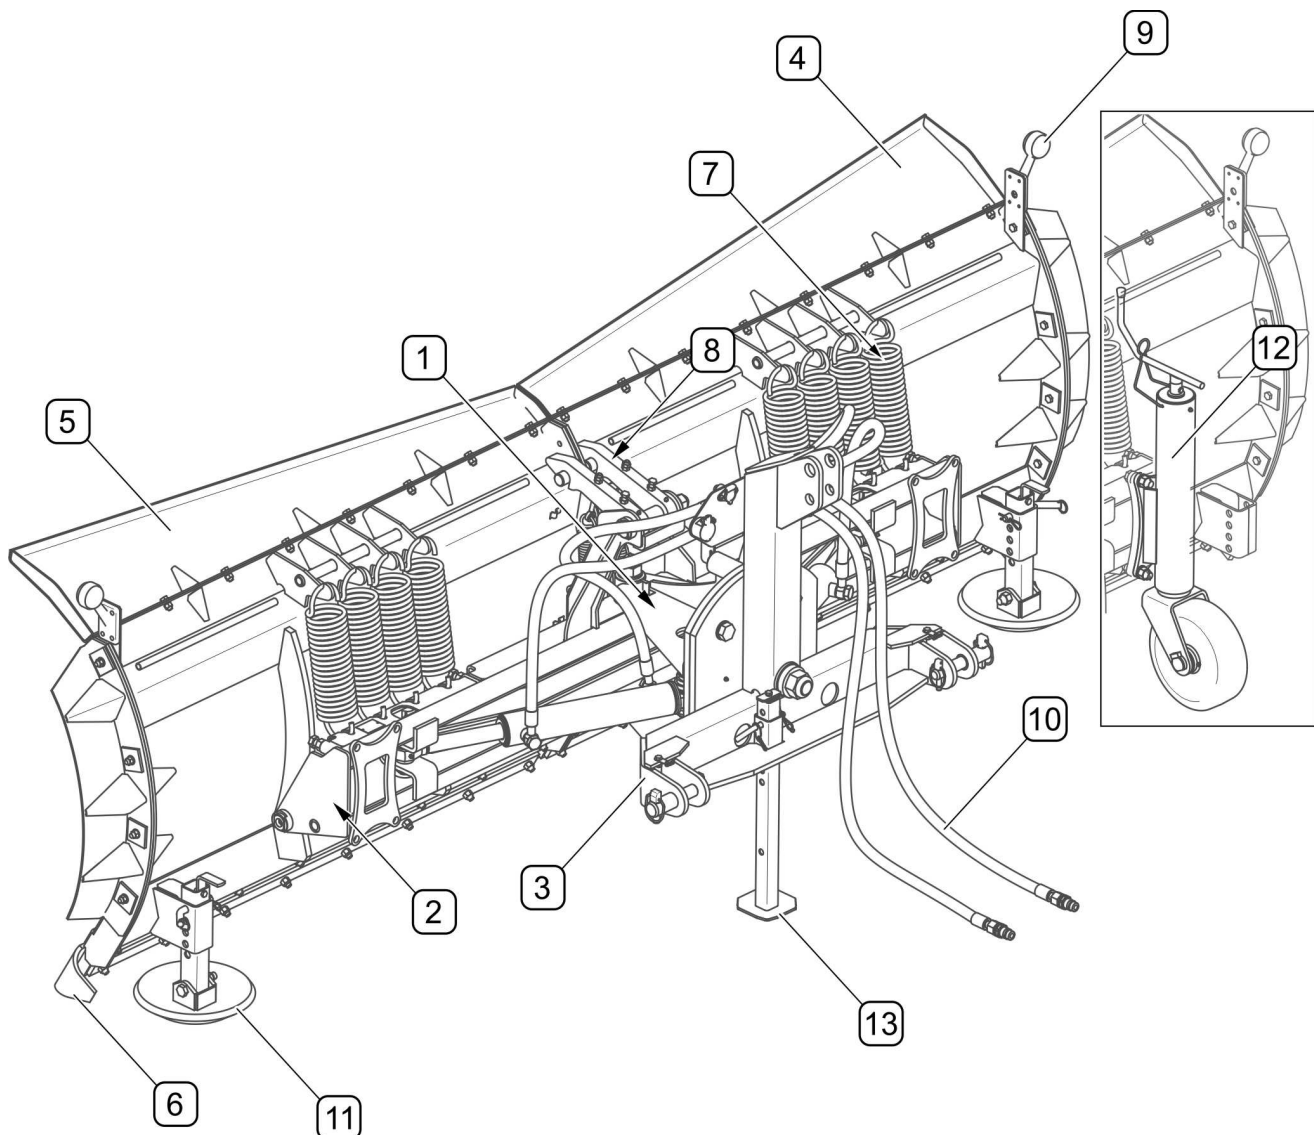

FIGURE 3.2 General design
(1) - cylinder frame; (2) - mouldboard frame, (3) - linkage, (4) - right mouldboard; (5) - left mouldboard; (6) - collecting strips, (7) - tensioning springs, (8) - protection mechanism ratchet, (9) - clear lamps wiring; (10) - hydraulic system (11) - slides, (12) - wheels (optional) (13) - parking stand
PU-2600/PU-3300 plough (FIGURE 3.2) consists of a mouldboard frame(2), which is attached to cylinder frame (1) by means of a rod. Right (4) and left (5) mouldboard and attached independently to mouldboard frame. When an obstacle is encountered mouldboards can independently swing forward and back thanks to the springs (7). Rubber or metal collecting strips (6) are attached to each mouldboard (*depending o plough option*). Using a suitable linkage (3) plough is linked to a tractor or front loader. During operation, plough is